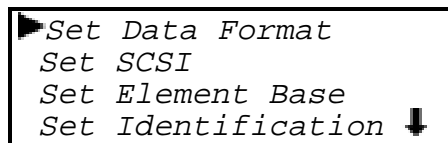

Figure 2-18 Configure Submenu
3. Press the **▼** button three times to move the **▶** to Configure Menu, then press the **Enter** button. The display will show the Configure submenu, as shown in Figure 2-18. Note that the **↓** at the end of the fourth line means that there are additional configuration options that can be reached by scrolling with the **▼** button.
7. Press the **Escape** button repeatedly until the submenu in Figure 2-18 reappears.